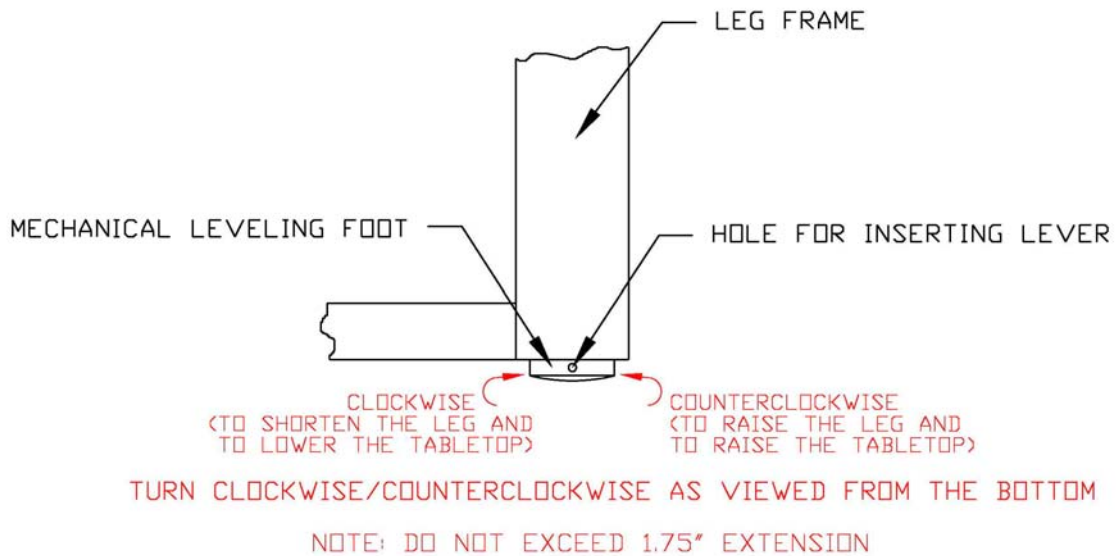

Fig. 2 Mechanical Leveling Foot Height Adjustment
2. Remove the protective wood blocks from the bottom of each leg. The Mechanical Leveling Feet are fully retracted for shipping. Rotate each foot COUNTERCLOCKWISE (See Fig. 2) so that they extend $\frac{3}{4}$ to 1" below bottom of the leg.
6. After the table is moved and located at its final destination, place a carpenter's level diagonally across the Tabletop or use the built-in levels on the Tabletop to check for level condition in all directions. If an out-of-level condition is detected, adjust the Leveling Feet by inserting a thin rod or screwdriver (as shown in Fig. 2) into the hole on the side of the Leveling Foot. Looking from the bottom, rotate the leveling foot **CLOCKWISE** to shorten the leg and lower the Tabletop. Rotate the foot **COUNTERCLOCKWISE** to lengthen leg and raise Tabletop. After leveling the tabletop, ensure that all the four leveling feet are in contact with the floor. If any gap is observed, rotate the leveling foot counterclockwise to close the gap as shown in Fig. 2. Check the tabletop level and repeat if necessary.